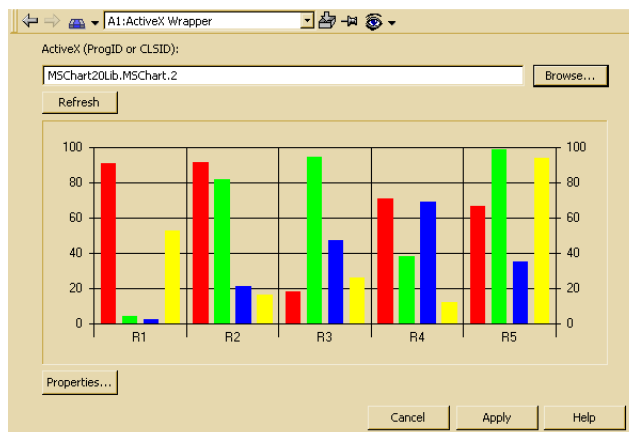

Figure 242. ActiveX Wrapper Aspect Dialog Box Showing a Preview of the Chart
6. A preview of the chart in the dialog box that pops up, see Figure 242.